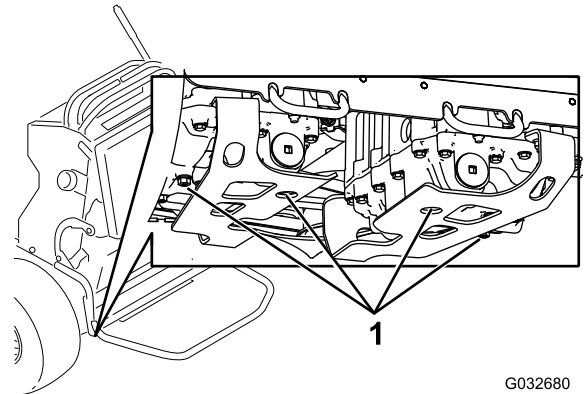

Figure 66
3. Locate the drain plugs in the bottom of the transmission and place a drain pan under the plug (Figure 66).